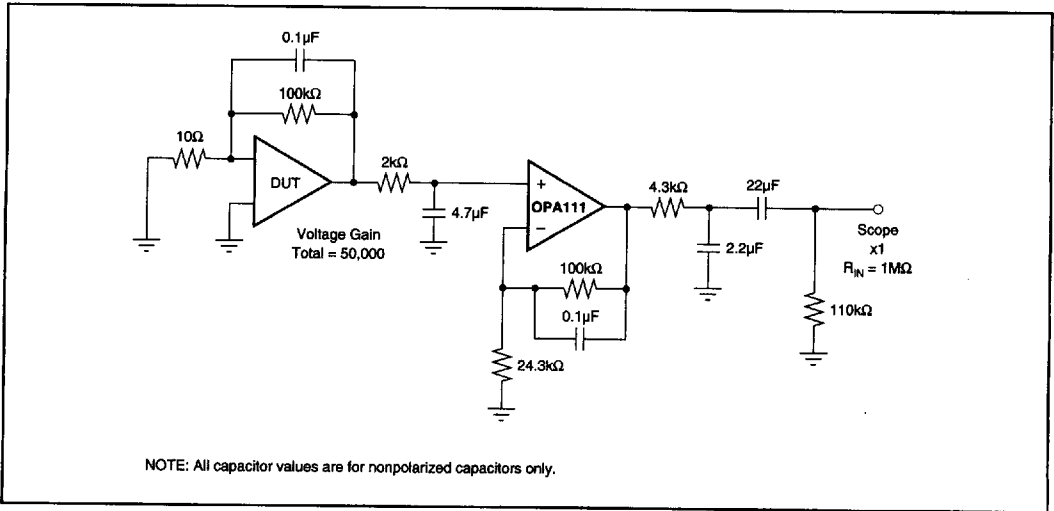

FIGURE 1. 0.1Hz to 10Hz Noise Test Circuit.
NOTES: (1) Measured with industry-standard noise test circuit (Figures 1 and 2). Due to errors introduced by this method, these current noise specifications should be used for comparison purposes only. (2) Offset voltage specifications on grades A and E are also guaranteed with units fully warmed up. Grades B, C, F, and G are measured with automatic test equipment after approximately 0.5 seconds from power turn-on. (3) Unrulled or rulled with 8kΩ to 20kΩ potentiometer. (4) Long-term voltage offset vs time trend line does not include warm-up drift. (5) Typical specification only on plastic package units. Slew rate varies on all units due to differing test methods. Minimum specification applies to open-loop test. (6) This parameter guaranteed by design.